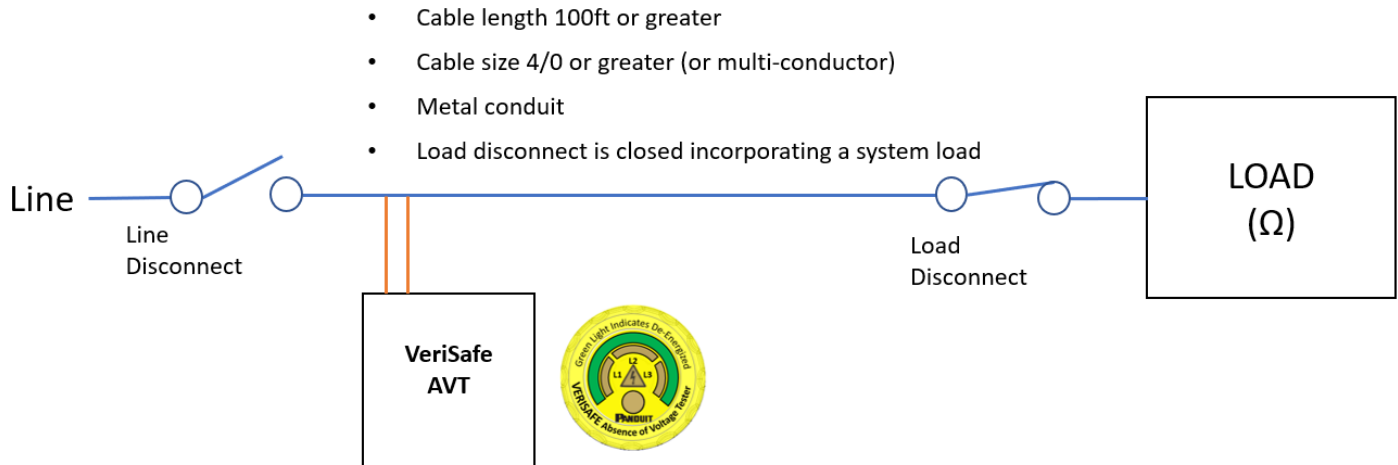

Figure 2 – A Load Applied to the System Counters High System Capacitance Resolving the Issue
Due to the relationship between system capacitance, system load, and discharge time of the connectivity diagnostic, closing the downstream disconnect, as shown in **Figure 2**, will often resolve the issue. The added load counters the system capacitance and allows the discharge time of the connectivity diagnostic to fall within the preset range. Assuming that the electrical system is de-energized below the AVT threshold, the AVT will provide the green absence of voltage indication.
2. If the AVT test is being performed with a system open or isolated on both ends of the cabling, is it possible to run the test with the load connected (**Figure 2**)? Is it possible to add load to the system in another way?